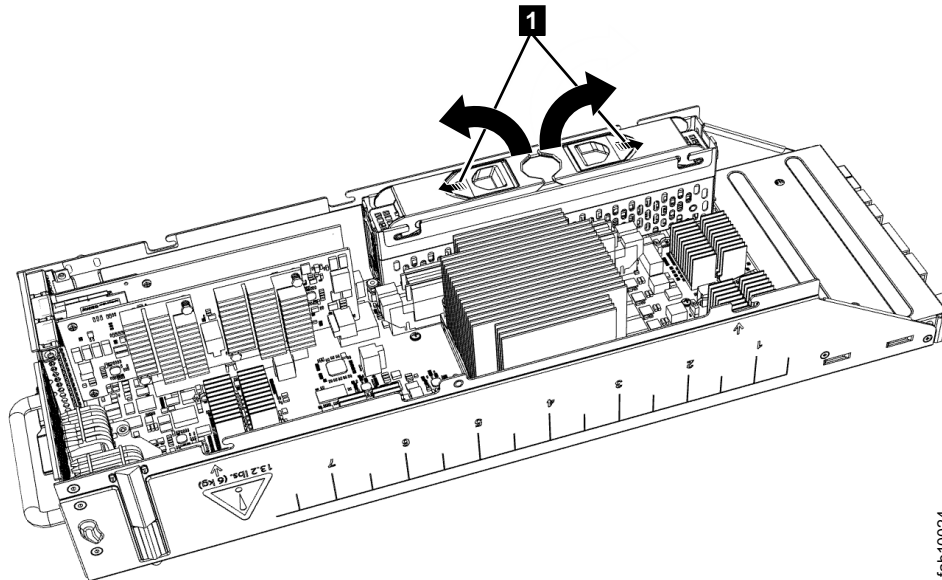

Figure 27. Opening latching arms to disconnect a Storwize V7000 Gen2 node canister battery
4. Spread the two blue battery latches outward as shown in Figure 27 on page 156. Raise open both latching arms of the battery simultaneously to disconnect the battery.